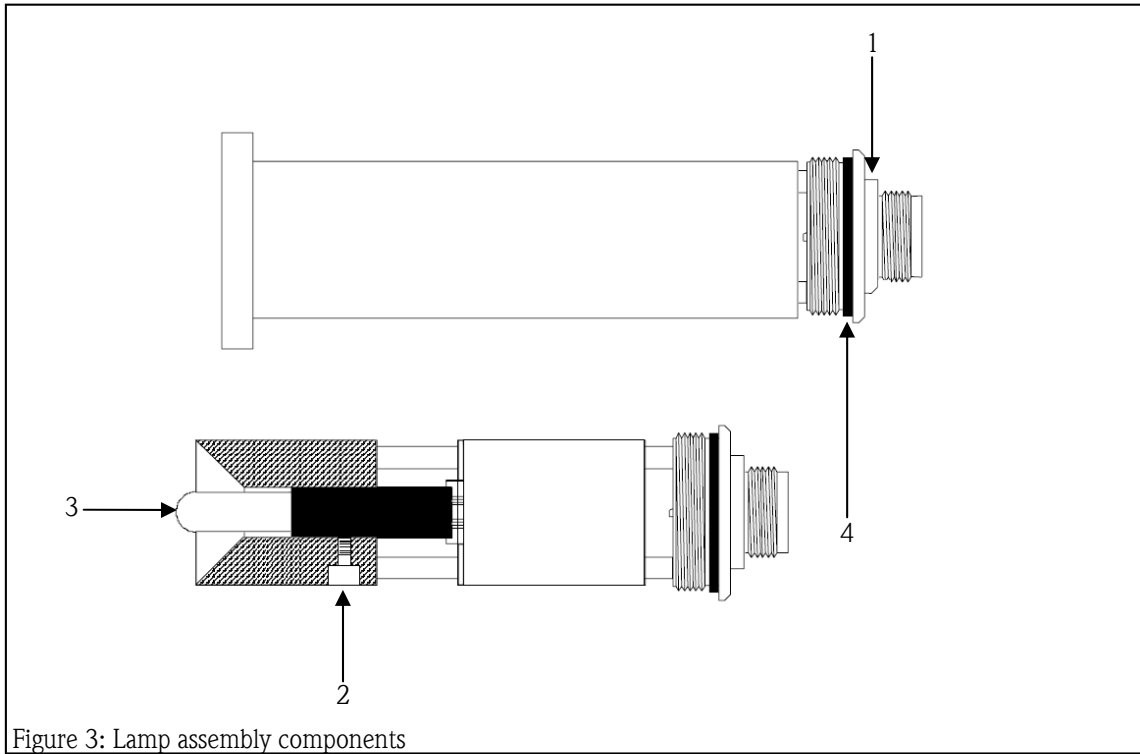

Figure 3: Lamp assembly components
2. Remove the top cover of the assembly. You may have to use the pipe or strap wrench, as well as the adjustable wrench to remove it by holding the top cover by the connector (1 in Figure 3) with the adjustable wrench and using one of the strap or pipe wrenches to turn the lamp's assembly body. If you have to use the wrenches to open the lamp assembly please make sure to protect the surface of the sensor in order to prevent deep scratches on it.
3. Using the 2mm Allen key, loosen the set-screw that holds the lamp in place (2 in Figure 3).
4. Pull out the UV lamp (3 in Figure 3).
7. Hand-tighten the set-screw that holds the lamp in place (2 in Figure 3). Do not over-tighten the screw as the lamp can break very easily!
8. Replace the lamp housing O-ring (2-025 Black Buna, 4 in Figure 3), and then close the lamp housing again.